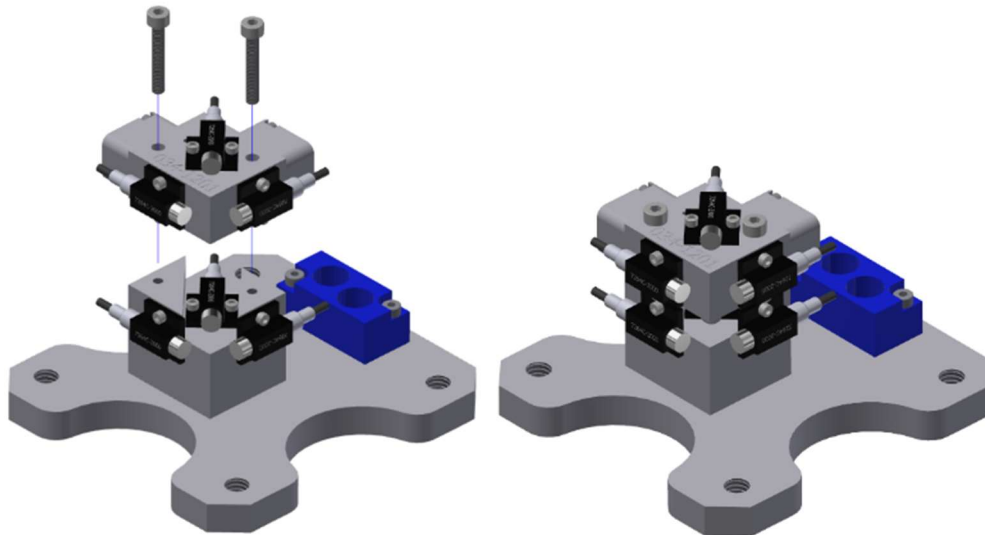

Figure 3-25. Head accel/ARS mount and sensor mounting plate assembly
- 3.3.5 Install the 6 axis accel/ARS mount onto the accel mount using two M2.5 X 0.45 X 16 LG. SHCS (Figure 3-25).